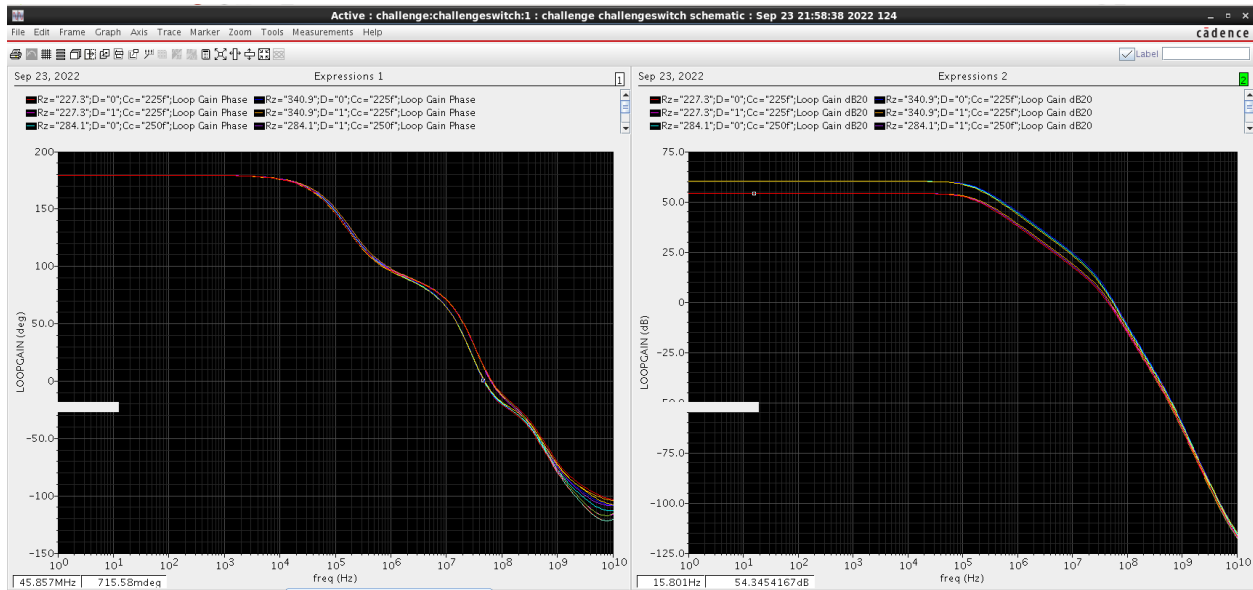

Figure 3.4
-I plotted loop gain in dB and phase vs frequency as shown in figure 3.4.